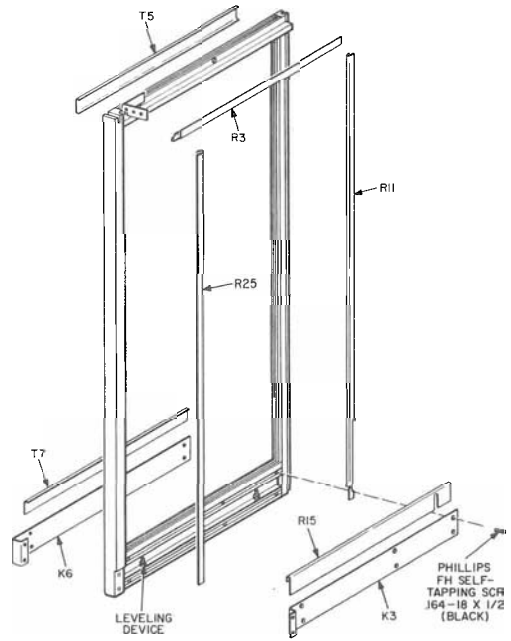
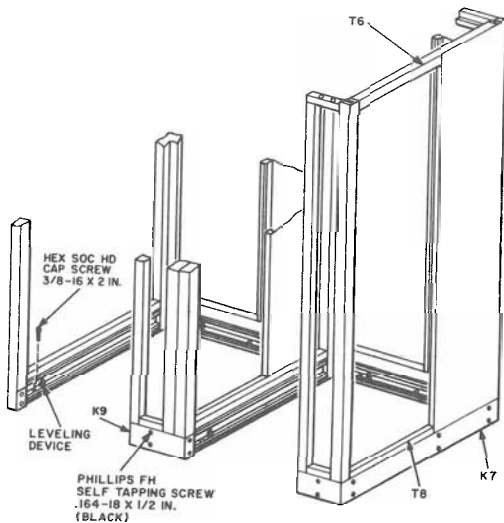

Fig. 15—Partial View of Left Wall
Fig. 16—Partial View of Two Booths
- (2) Place List 21 booth to the right of the previous booth and perform operations outlined in 3.06 through 3.10.
- (3) Remove R3 retaining strip from top left-inside wall of the booth being installed (Fig. 15).
- (4) Fasten booth walls together at top using two 1/4-20 by 1-1/2 hex socket head cap screws and at the bottom using two 1/4-20 by 3/4 hex socket head cap screws. Screws are furnished with List 21 booth.
- (5) Install R3 in its original position.
- (6) Install T6, T8, and K7 (Fig. 16) on the last right-hand booth of a line-up.
- (8) Install K9 kickplate (packaged separately) on the bottom-front-outside wall between booths (Fig. 16).
(1) Remove and retain the following items from the previous existing or left end booth (Fig. 15):
(3) Repeat 3.31 (3) through (7).
(4) Repeat 3.22 (4).
(5) Remove and retain the following items from the new booth.
(6) Transfer B-651879 rails from the left wall of the new booth to the wall where the glass panel was removed.
(7) Install all items retained in (1) and (5) on the left walls of the booths (Fig. 15).